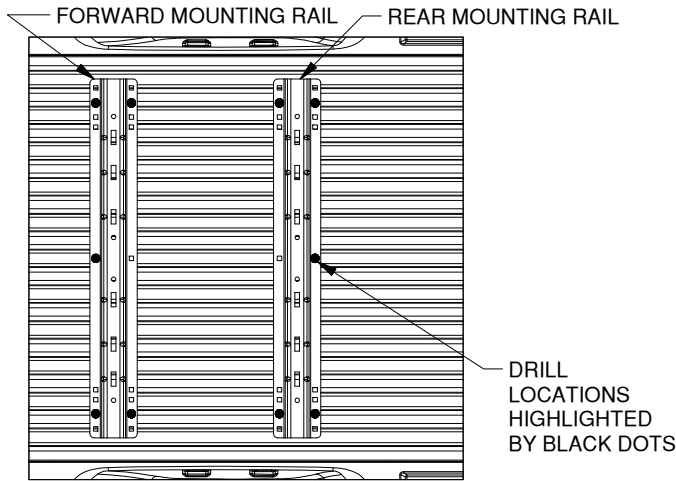

Figure B2: Detail view over bed, showing drill locations for the forward and rear mounting rails.
- 2. Mark hole locations.** While carefully ensuring the mounting rail does not move, use a center punch tool to mark the 5 drill locations on the rear rail. See Figure B2 for hole marking locations for this installation (forward rails will install in a later step). Once all 5 rear rail locations are clearly marked, move the bed rail out of the way and drill each location with an 1/8" drill bit.
4. **Drill forward mounting holes.** Using the same methods as used for the rear mounting rail, mark, drill, check, and enlarge the holes for the forward mounting rail. Start at "DRILL REAR MOUNTING HOLES" section, Step 2, on a previous page. Notice that the hole locations are slightly different than the rear rail, see Figure B2 (on the third page).